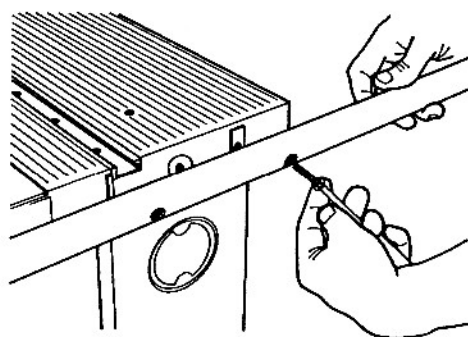

Fig. A-6
9. Place an internal tooth washer (395) and hex nut (396) on the screw. Finger tighten.
10. Repeat Steps 6 -9 to attach the fence tube to the right front edge of the table, as illustrated in Figs. A-6 and A-7.